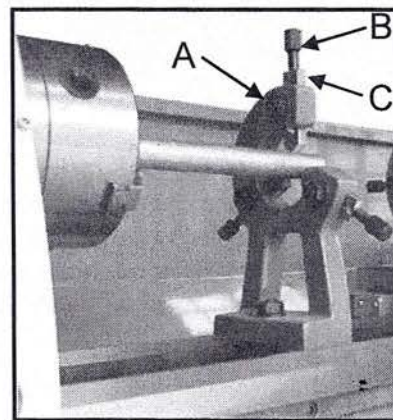

Fig. 36
1. Loosen three hex nuts. (A, Fig.36)
2. Loosen knurled screw (B, Fig.36) and open the sliding fingers. (C, Fig.36) until the steady rest can be moved with its finger around the workpiece. Secure the steady rest in position.
3. Tighten knurled screws so that fingers are snug but not tight against the workpiece. Tighten three nuts (A, Fig.36). Lubricate the sliding points with machine oil.